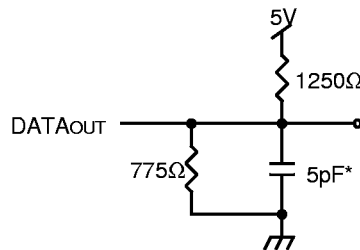

Figure 2. Output Load
1. Transition is measured ±500mV from Low or High-impedance voltage with load (Figure 2).
1. Transition is measured ±500mV from Low or High-impedance voltage from the Output Test Load (Figure 2).